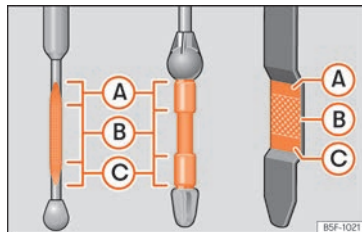

Fig. 212 Engine oil dipstick.
- Then pull it out once more and check the oil level »» **Fig. 212**. Top up with engine oil if necessary.
- When the oil level reaches at least zone » **Fig. 212 (B)**, unscrew the engine oil filler cap carefully » **ⓘ**.
If the oil level is above area » **Fig. 212 (A)**, do not start the engine. This could result in damage to the engine and catalytic converter. Contact a specialised workshop.
The oil level must never be above zone » **Fig. 212 (A)**. Otherwise oil can be drawn in through the crankcase breather and leak into the atmosphere via the exhaust system.